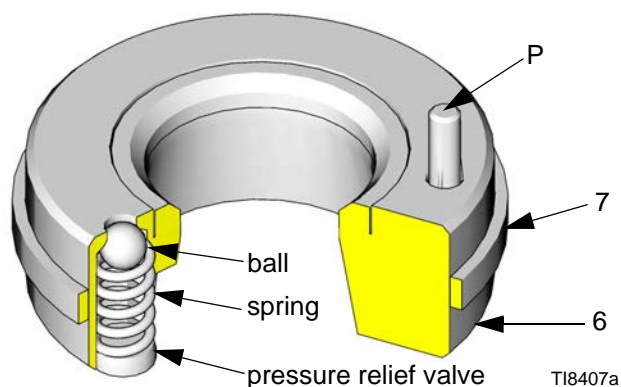

FIG. 6. Inlet Seat with Pressure Relief Valve
4. Install the relief valve inlet seat (6) in the left side of the inlet housing (15), as viewed in FIG. 4 and FIG. 5. (Text cast into the inlet housing identifies the correct location for the relief valve seat.) The pin (P) on the seat must point into the housing. The pin limits the positioning of the seat, ensuring that the vent is not blocked by part of the housing. See FIG. 6.